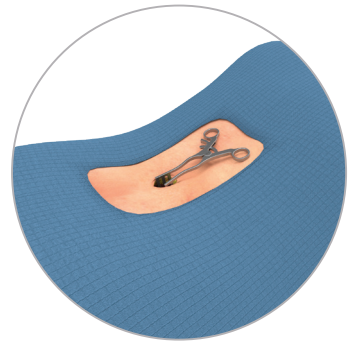

Fig. 3B. Retractor in Position to Visualize Supraspinous Ligament
3. Insert a retractor to visualize the supraspinous ligament (Fig. 3B).